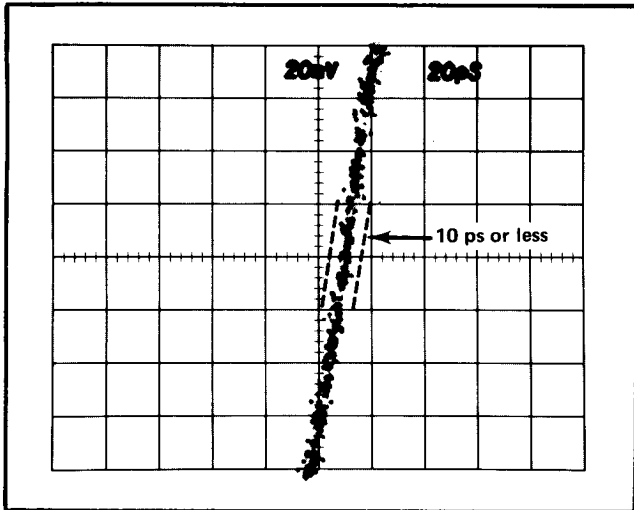

Fig. 5-5. Pulse jitter measurement of the S-6, S-52 and 7S12 system.
b. CHECK that the pulse jitter is not greater than 10 ps (.5 div). Use only 90% of the trace width for this check. See Fig. 5-5 for this waveform.
b. CHECK that the pulse jitter is not greater than 20 ps (1 div). Use only 90% of the trace width for this check. See Fig. 5-5 for a similar waveform.